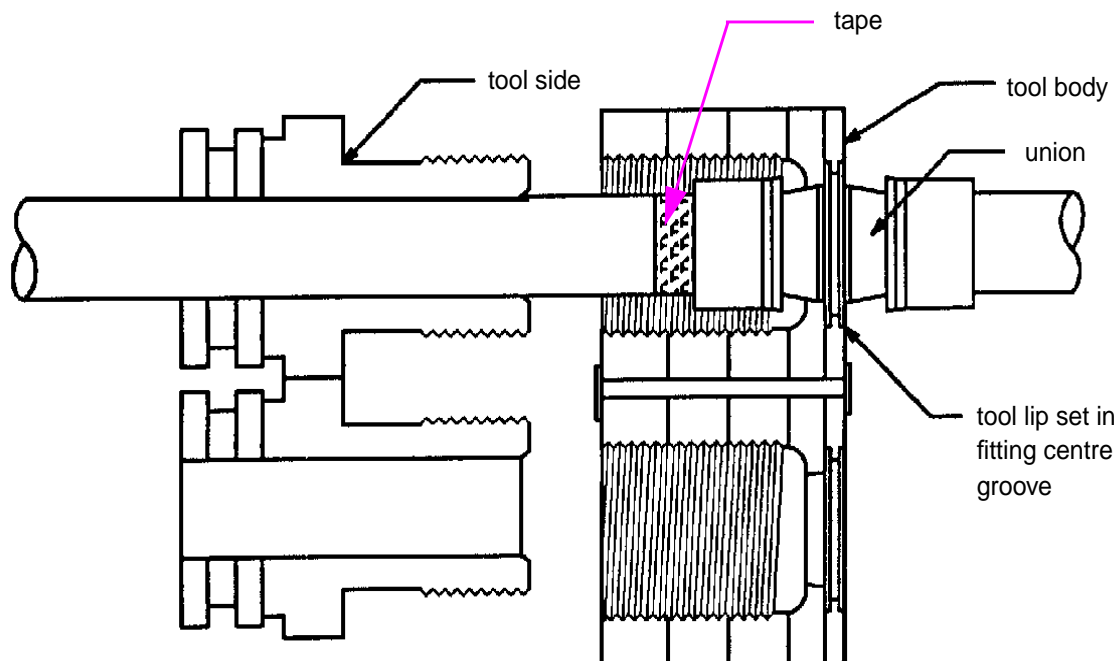

Figure 4 - Positioning the Quickfit Mini-Tool around the Fitting
- Step 1. Assemble the Quickfit Mini-Tool slide and body around the side of the fitting to be swaged. For unions, begin with the taped side (see Figure 4).